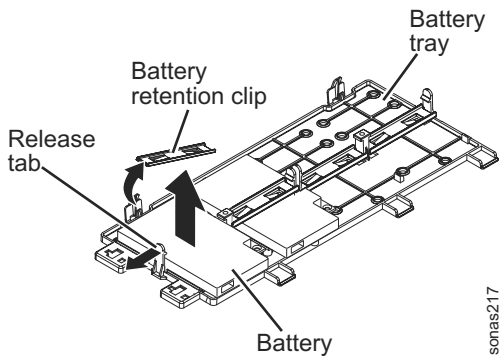

Figure 33. Releasing the battery retention clip
- a. Remove the battery retention clip from the tabs that secure the battery to the remote battery tray. See Figure 33.